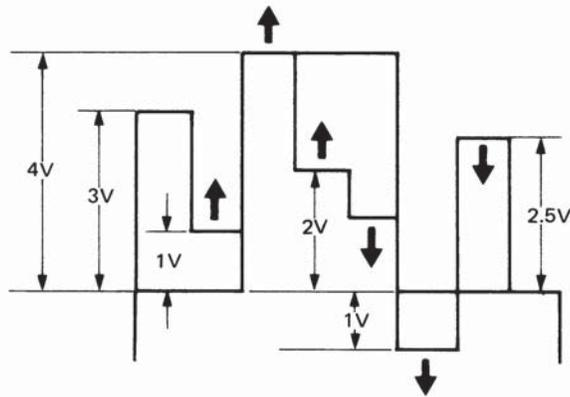
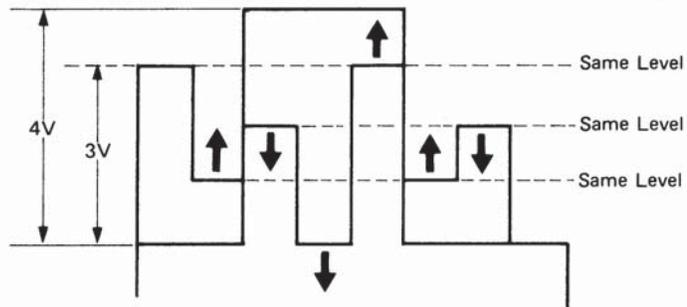

Figure 20 When Tint control (R306) is turned clockwise (-25°)
Figure 21 When Tint control (R306) is turned counterclockwise (+25°)
10. When Tint control (R306) is turned to either fully clockwise or fully counterclockwise, confirm that the waveform at TP46B is as shown in figure 20 and figure 21, or exceeded to the direction of arrow mark at each color levels.